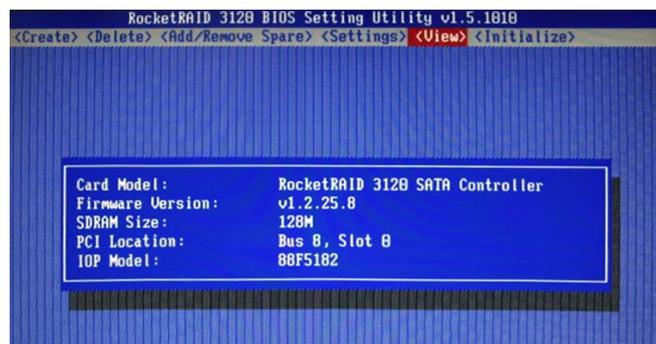

Figure 121. Firmware Version
- Verify that the firmware version is "**v1.2.25.8**" as shown in Figure 121.